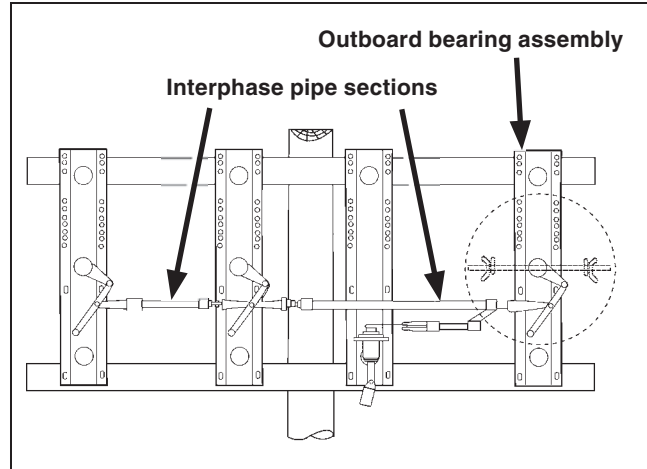

Figure 12. Interphase pipe connecting the switch poles and outboard bearing.
STEP 9. Install the pipe sections connecting the switch poles and the outboard bearing assembly (or assemblies). See Figure 12. Follow the directions in the “Install Pipe Couplings” section on page 13.